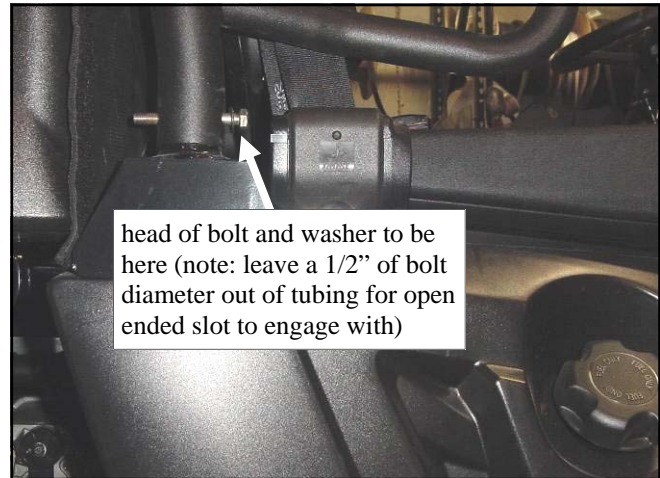

Fig. 6.5 (view from rear passenger's side)
6.5 Per fig. 6.5, install a 5/16-18 x 2-3/4" long hex head bolt and steel washer as shown. Leave the bolt head sticking out approximately 1/2". Keep the washer tight under the bolt head so the hinge plate assembly can rotate into place under the washer.